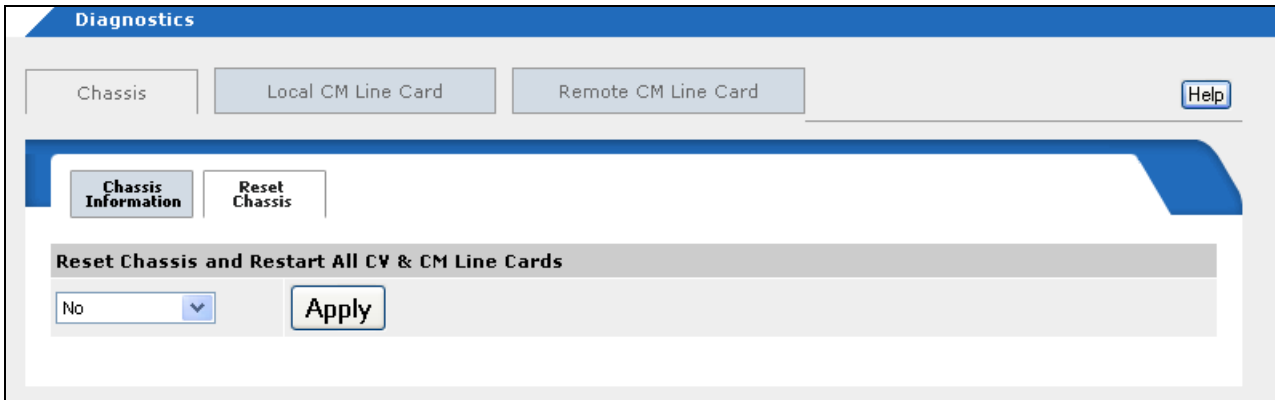

Figure 84. General tab
3. Select the **Reset Chassis** tab shown in Figure 84.